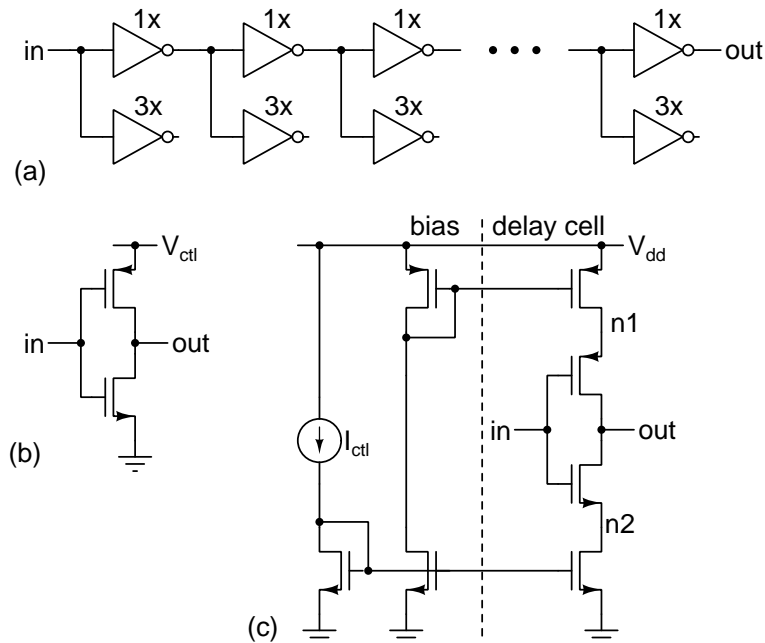
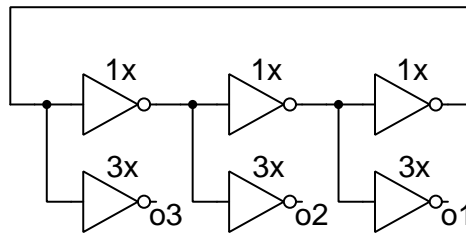

Figure 3: Problem 4 – (a) Delay line, (b) Inverter controlled by supply voltage, and (c) Current starved inverter.
Figure 4: Problem 5 – Three-stage ring oscillator.
4. Fig. 3(a) shows a delay line. Use the 45 nm CMOS process with a 1 V supply. Add 3 inverters to each node for additional loading (Inverters with a fan-out of 4 are used to estimate the delay of combinatorial logic circuits which use more complex gates. Here it is used to add parasitics which would appear in reality). Use a 1 GHz, 50% duty cycle square wave as the input in the following simulations.
- (a) Realize the delay line using the inverter in Fig. 3(b) and determine the inverter delay and its rise and fall times (20 to 80%). Use minimum length transistors and $W/L = 4$ for nMOS. Adjust pMOS width to get nearly equal rise and fall times (It may not be possible to maintain this over the whole delay range. Make sure that it is true at the minimum delay setting). Simulate a chain with many inverters so that the output waveforms converge to the same shape. Compute the delay from that part of the chain whose input/output waveforms are the same.
- (c) Realize the delay line using the current starved inverter in Fig. 3(c). Use the same width for the two pMOS transistors and likewise for the two nMOS transistors. Use a common bias circuit for all inverters. As before, size the pMOS devices so that the rise and fall times are nearly the same (It may not be possible to maintain this over the whole delay range. Make sure that it is true at the minimum delay setting). Plot inverter delay and rise/fall times versus I_{ctl} . Choose the range of I_{ctl} such that at its minimum value, the delay is the same as that of Fig. 3(b) with $V_{ctl} = 0.6$ V and at its maximum value, the delay doesn't decrease any further.
5. Use the inverters designed in the previous problem (Fig. 3(b, c)) to design the three-stage ring oscillator in Fig. 4. Use the same ranges for V_{ctl} and I_{ctl} as before and plot the oscillation frequency versus V_{ctl} and I_{ctl} . Also plot the power dissipation of the oscillators versus their oscillation frequency.